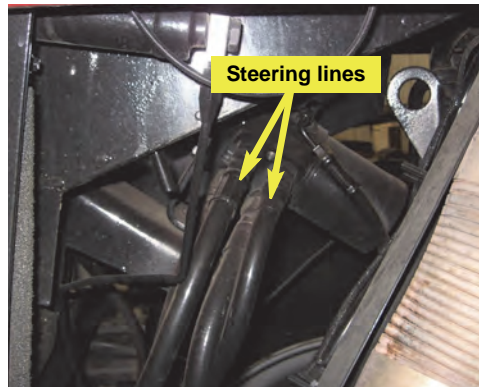

Figure 6a: Steering output location
a. Locate the top two lines on the steering orbital (Figure 6a).